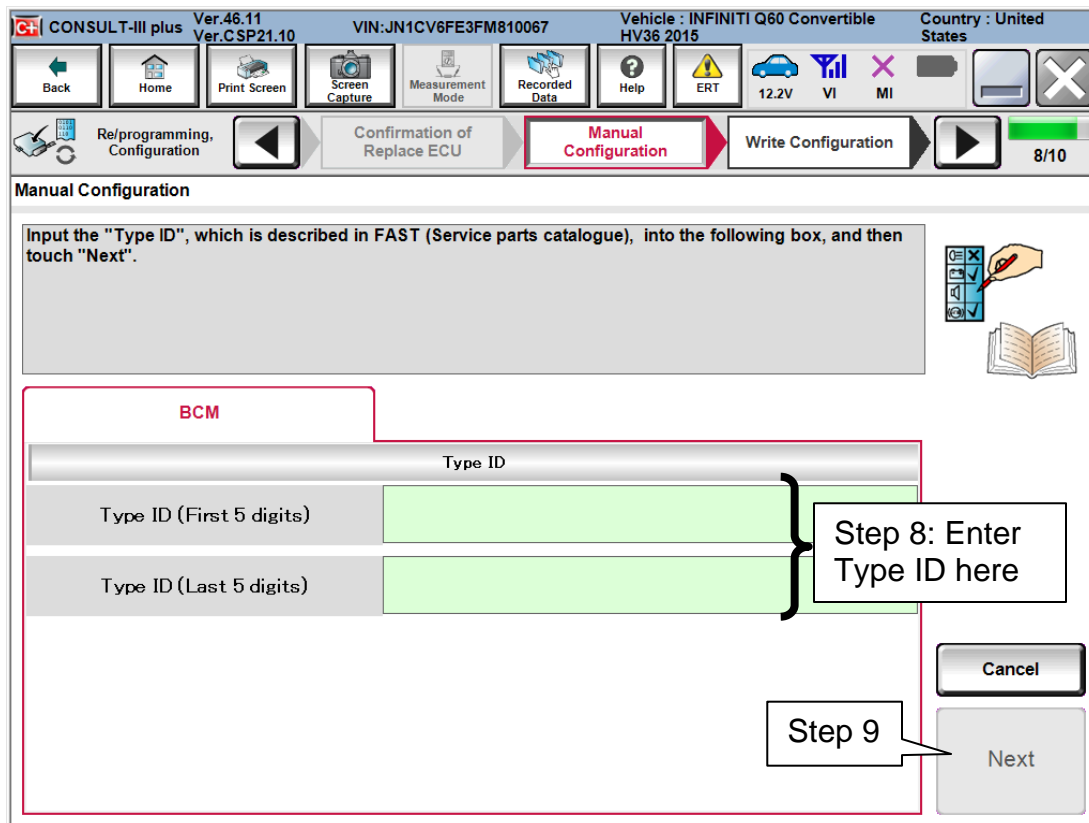

Figure 3
8. When you get to the screen shown in Figure 3, enter the Type ID number you obtained in step 1.
**NOTE:** If the screen shown in Figure 3 does not display, recheck the replacement BCM part number using FAST. Make sure a “blank” BCM has been installed.